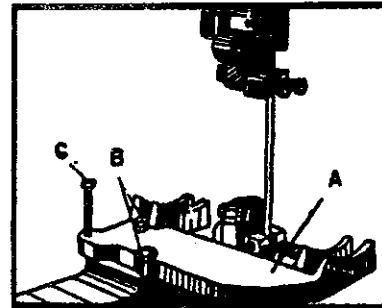

Fig. 13
Locate the assembled nut of the trunnion bracket(A) with two screws (B) and washers. Table supporting screw(C) is adjustable to support table properly. Fig. 13.